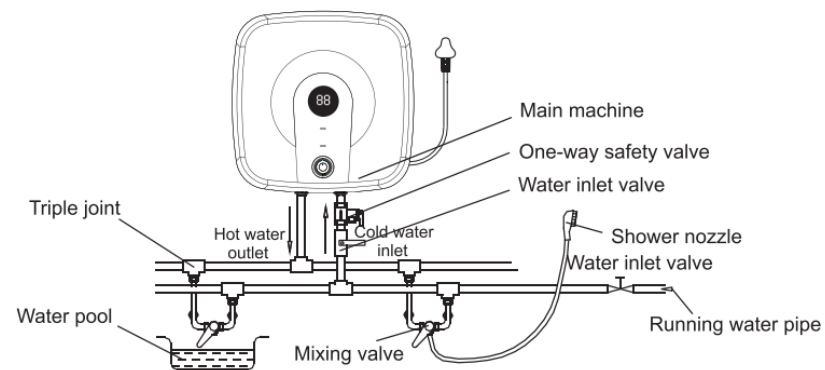

Fig.4
4. If the users want to realize a multi-way supply system, refer to the method shown in Fig.4 for connection of the pipelines.